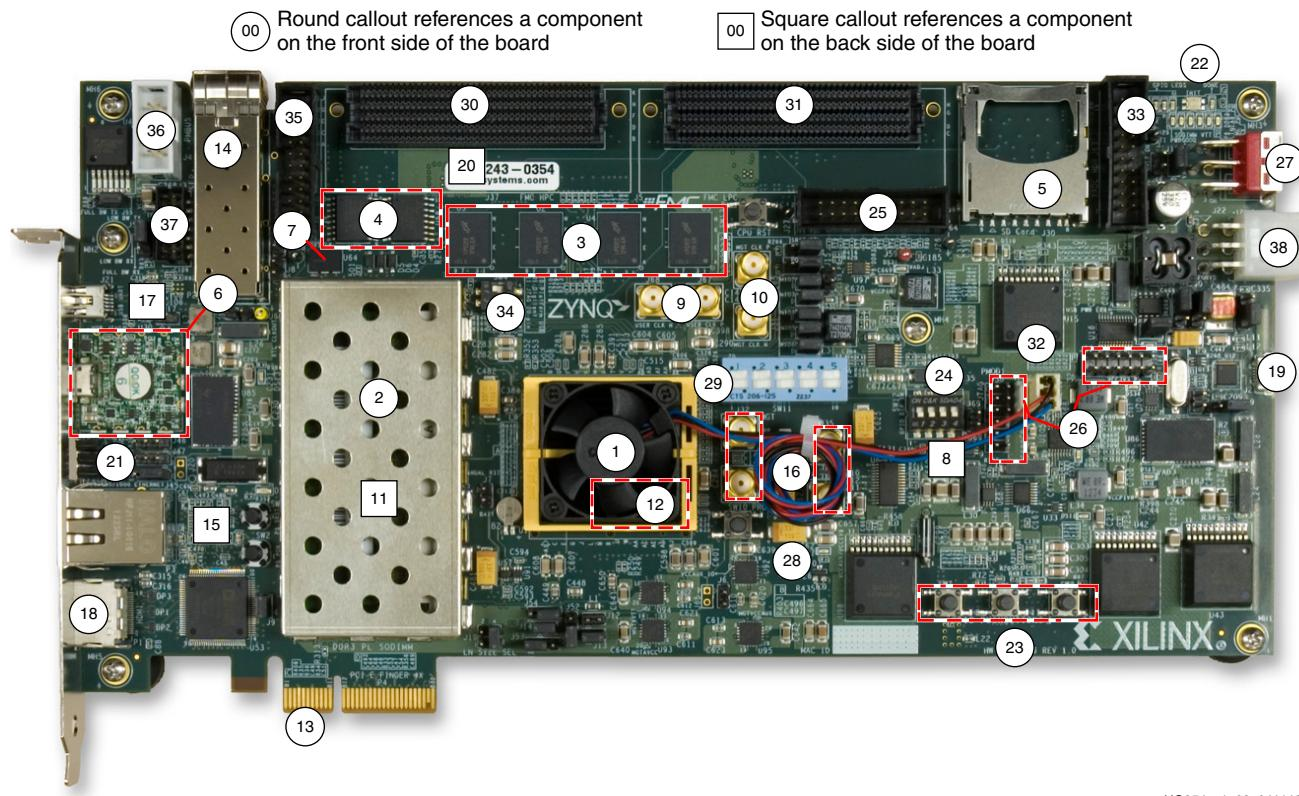

Figure 1-2: ZC706 Evaluation Board Component Locations
Figure 1-2 shows the ZC706 evaluation board. Each numbered feature that is referenced in Figure 1-2 is described in Table 1-1 with a link to detailed information provided under Feature Descriptions starting on page 13.
Note: The image in Figure 1-2 is for reference only and might not reflect the current revision of the board.
Detailed information for each feature shown in Figure 1-2 and listed in Table 1-1 is provided in this section.
[Figure 1-2, callout 1]
The JTAG configuration option is selected by setting SW11 (PS) as shown in Table 1-2 and SW4 (PL) as described in Programmable Logic JTAG Programming Options, page 31. SW11 is callout 29 in Figure 1-2.